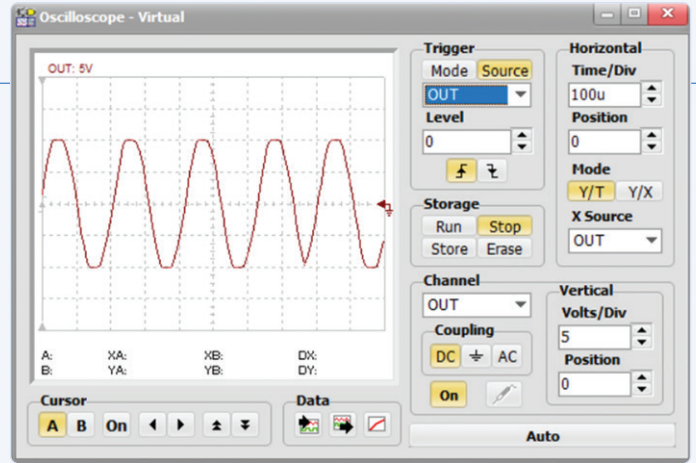

Figure 5: Output waveform.
- Check the output waveform (**Figure 5**). The period is 200 us which corresponds to 5 kHz.